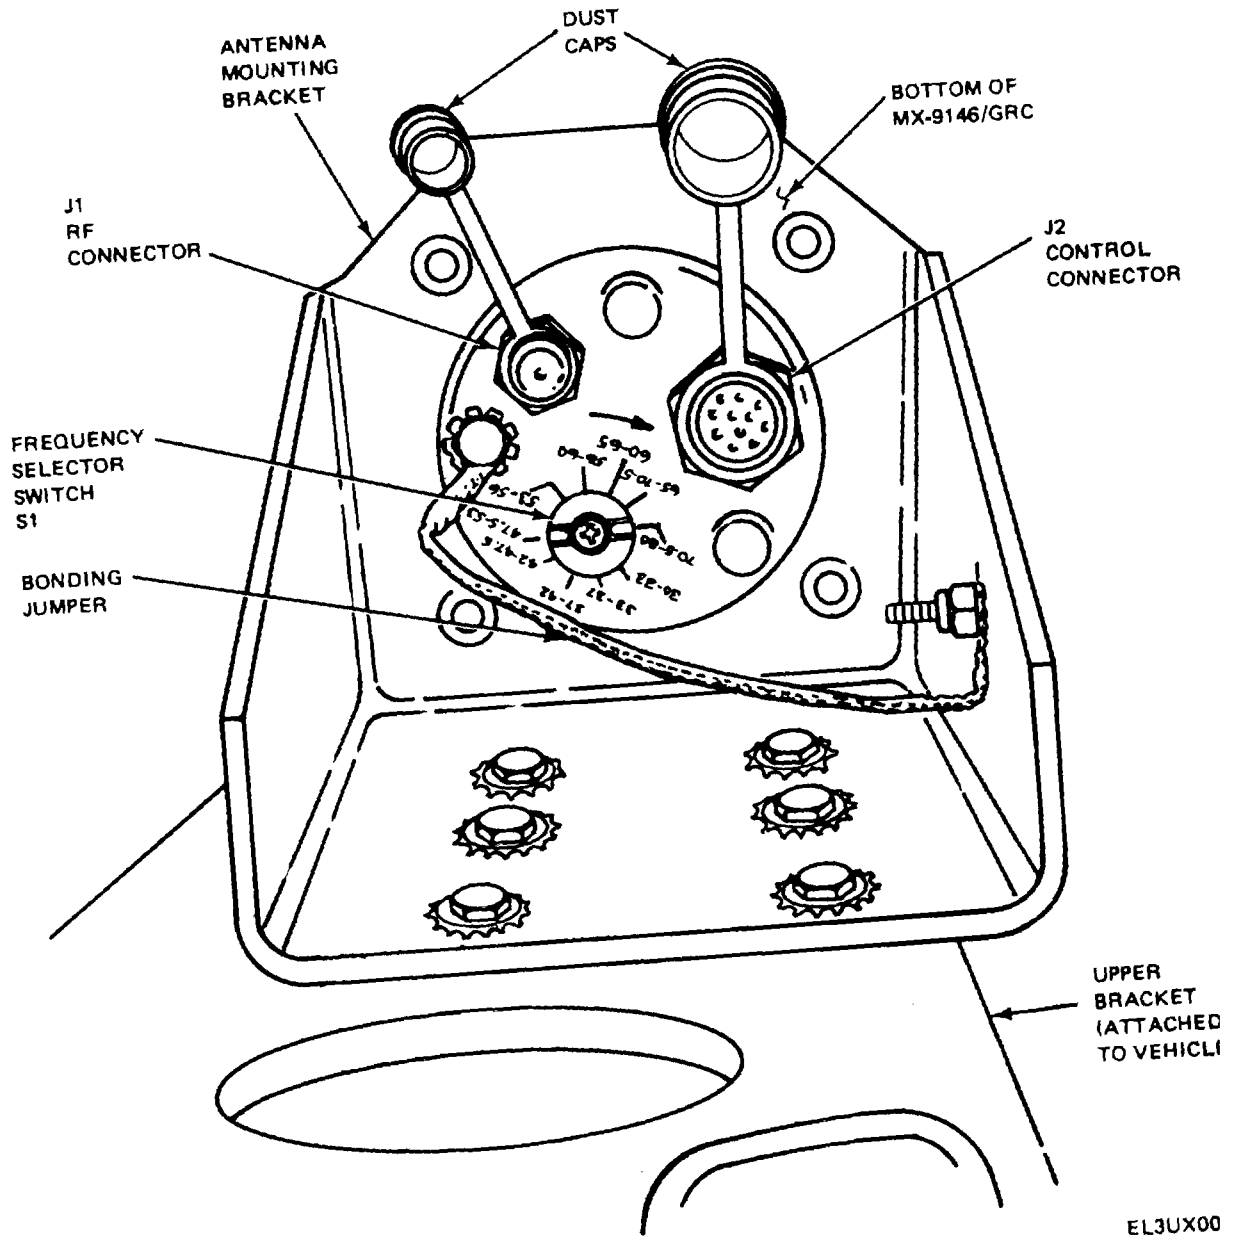

Figure 2-3. MX-9146/GRC, bottom view, installed in mounting bracket, parts location.
b. Attach the MX-9146/GRC on the vehicle (fig. 2-3 and 2-4) as described in the installation kit (a above) with the supplied mounting hardware.